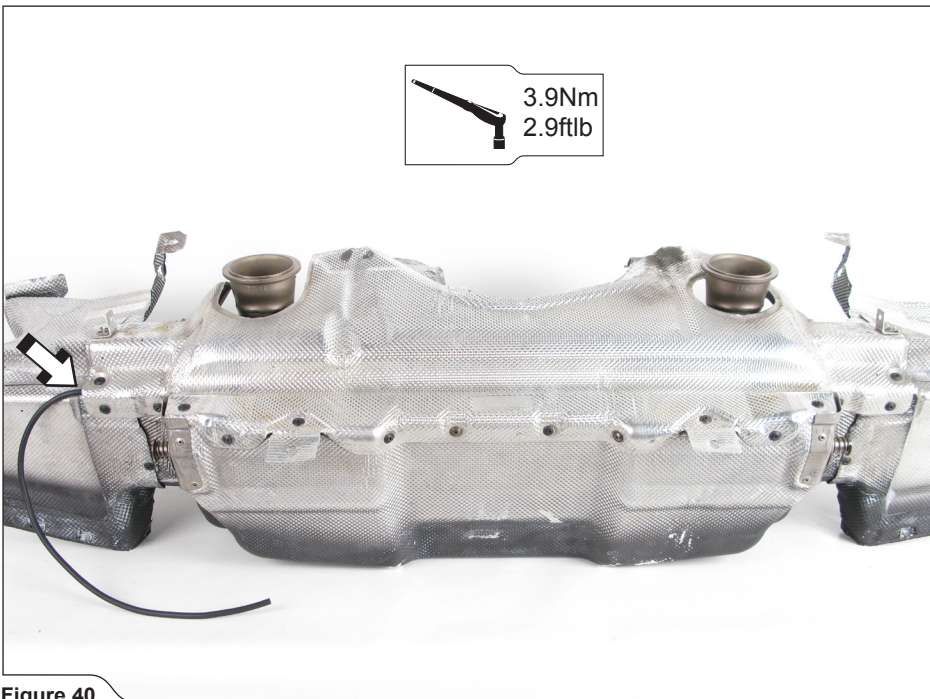

Figure 40
- ! CAUTION: make sure to correctly direct the left vacuum tube; the tube must exit the heat shield as shown (Figure 40)!